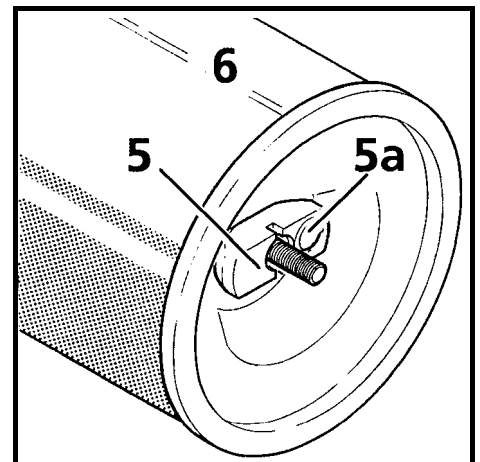

Fig. 37
The safety elements 6 are installed with a special wing nut with built in maintenance indicator (Fig. 37, pos.5).